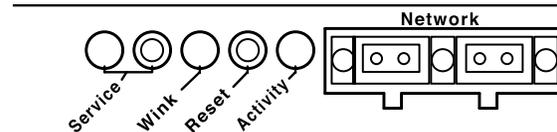

Figure 3.3. RMS section of the user panel
The RMS section of the user panel has three LEDs and two buttons (Figure 3.3).
**NOTE:** The LEDs and buttons on the RMS section of the user panel shown in Figure 3.3 are used exclusively by RMS, and have no effect on the acoustical and/or electrical activity of the loudspeaker itself – unless Mute or Solo is enabled at the module and from the RMS software.